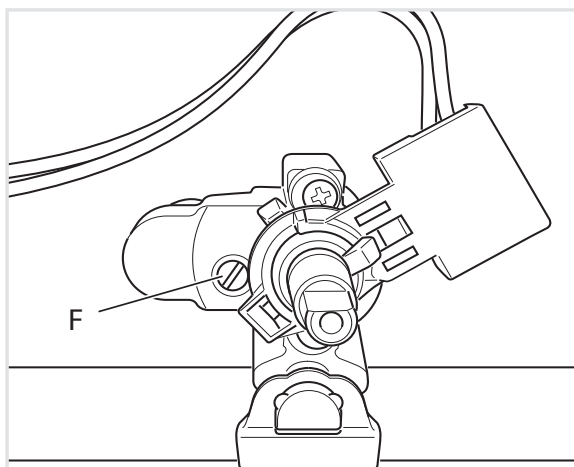

Figure 18
- Using a small flat screwdriver turn the screw "F" to the correct regulation (fig. 18).